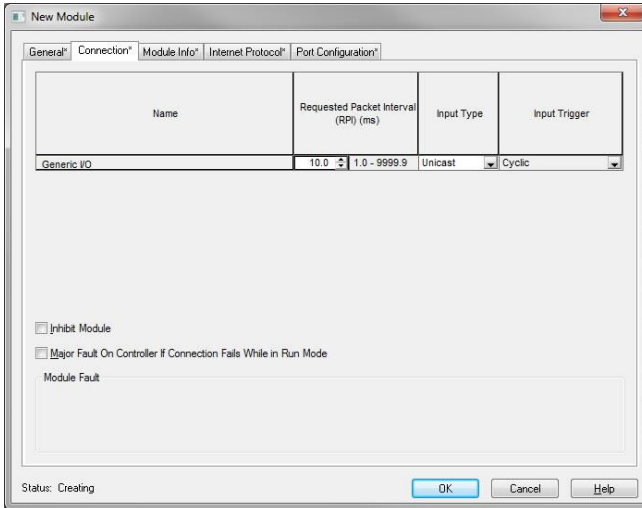

Figure 31: AOP New Module Properties Connection Tab
- 13) Click on the "Connection" tab. Refer to Figure 31.